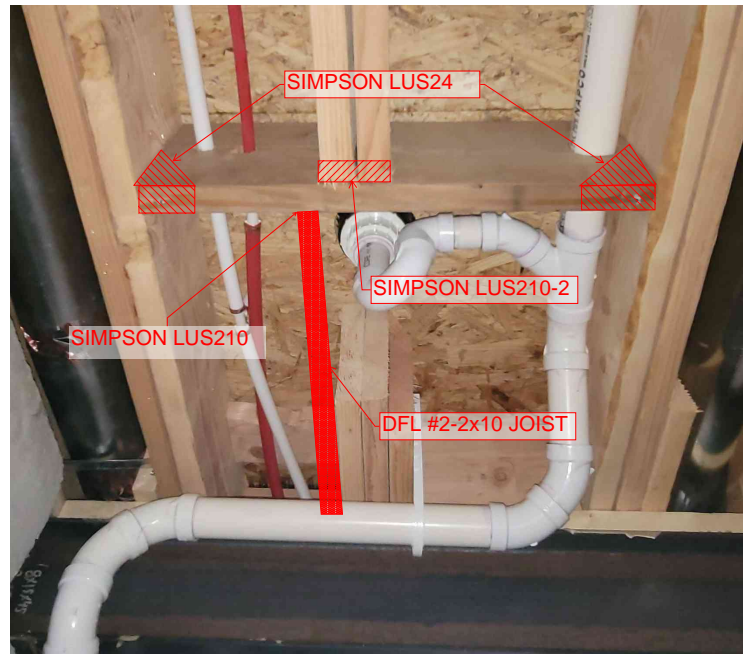

Figure 3.0 – Cut Joist Repair
- The cut joist shall be hangered into a single ply DFL #2-2x10 header beam with Simpson LUS210-2 face mount hanger. An additional 2x10 joist shall be installed on the backside of header beam and fastened with Simpson LUS210 face mount hanger at one end and bear on steel beam at the other end. The header beam shall be fastened to adjacent joist bays with Simpson LUS24 hangers each side. Reference Figure 3.0.